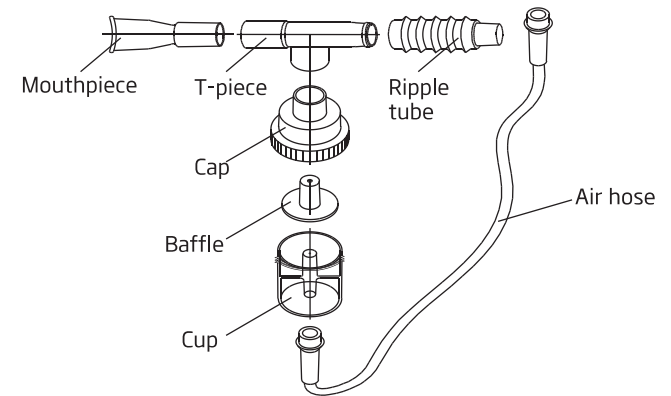

Figure 13
- Pull out the air hose, pull the mouthpiece, downward pull the nebulizing cup's cap, empty remained medicinal liquid in the nebulizing cup, then wash the air hose, mouthpiece, nebulizing cup's cap, nebulizing baffle, nebulizing cup, ripple tube, T-piece, etc , with pure water or immerge them in warm water for about 15 minutes(Figure 13). In order to wash them properly, you may add some vinegar in water.